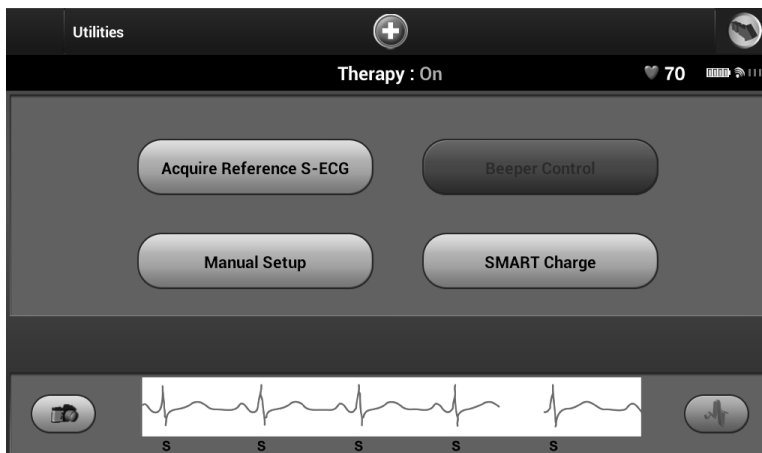

Figure 42: *Utilities screen*
2. Select the Utilities button. The Utilities screen appears (Figure 42).